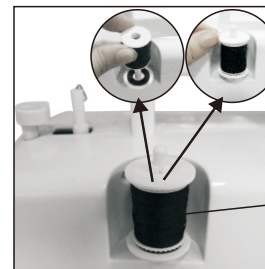

Fig.11
1. Put a spool of thread on spool pin .(Fig.11)